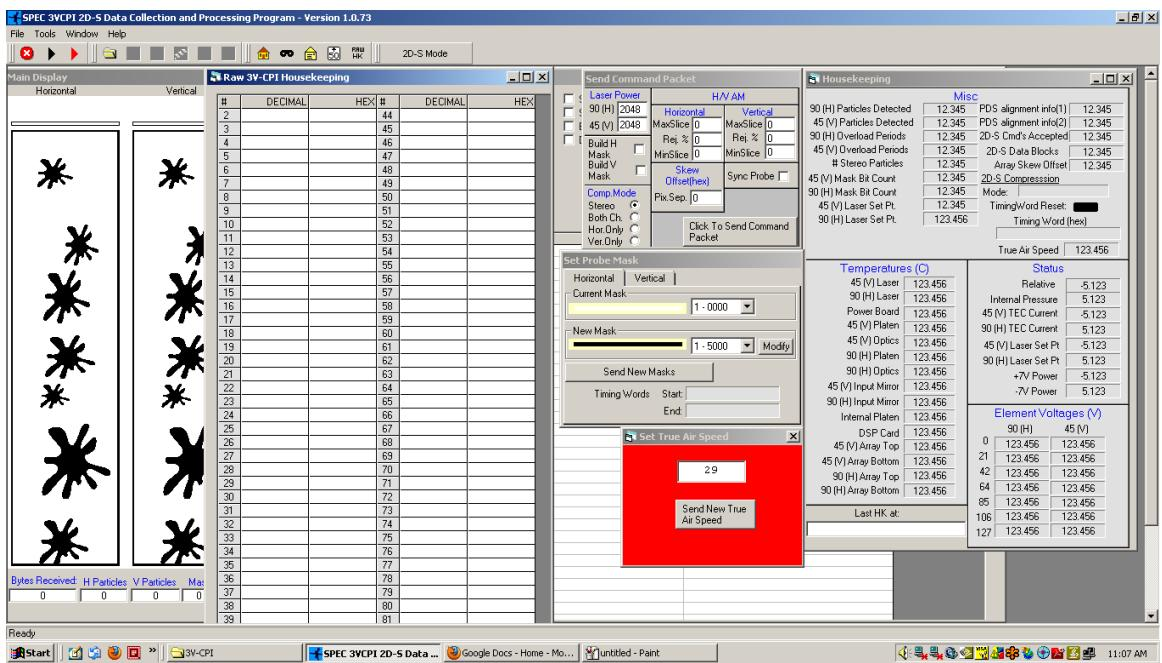

Figure 2.4.6 Startup screen for 2D-S GUI
- To initialize the connection between 2D-S GUI and the probe, click the red arrow in the top left corner of its Display Window, **Figure 2.4.6**.